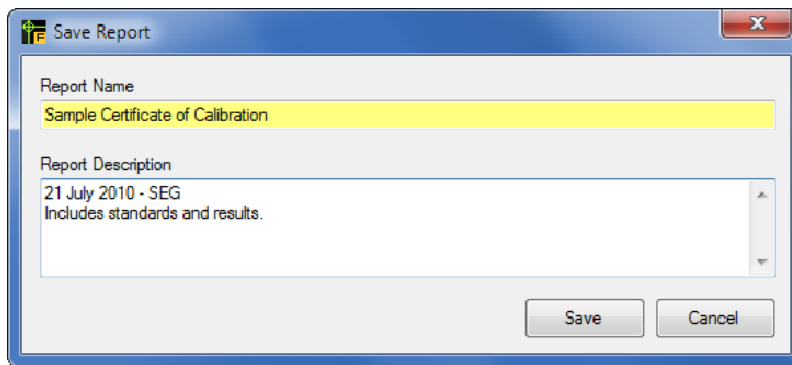

Figure 37. Save Report Screen
1. Click , or click **File** and then point to **Save** from the main menu, or push CTRL+S to open the dialog box shown in Figure 37.